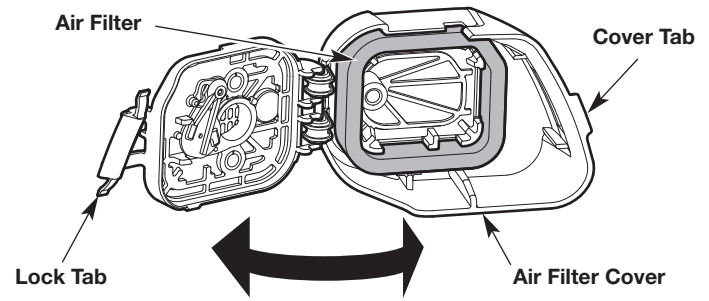

Fig. 27
1. Open the air filter cover: Hook your fingers behind the cover tab. To unlock the air filter cover, pull it to the left and away from the engine. This may require a firm pull. Swing the air filter cover to the right (Fig. 27).
2. Remove the air filter from inside the air filter cover (Fig. 27).
6. Reinstall the air filter inside the air filter cover (Fig. 27).
7. Close the air filter cover: swing the air filter cover to the left and press it closed until the lock tab snaps into place (Fig. 27).